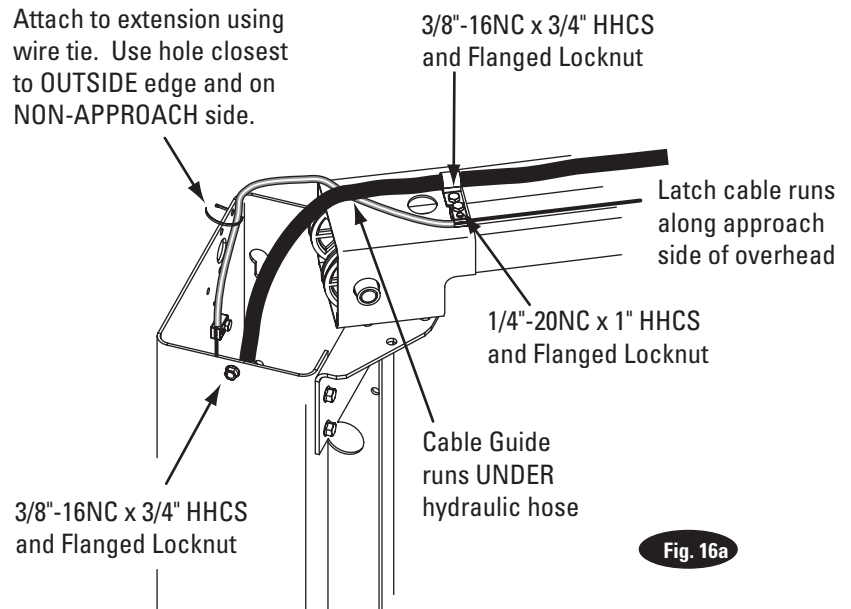
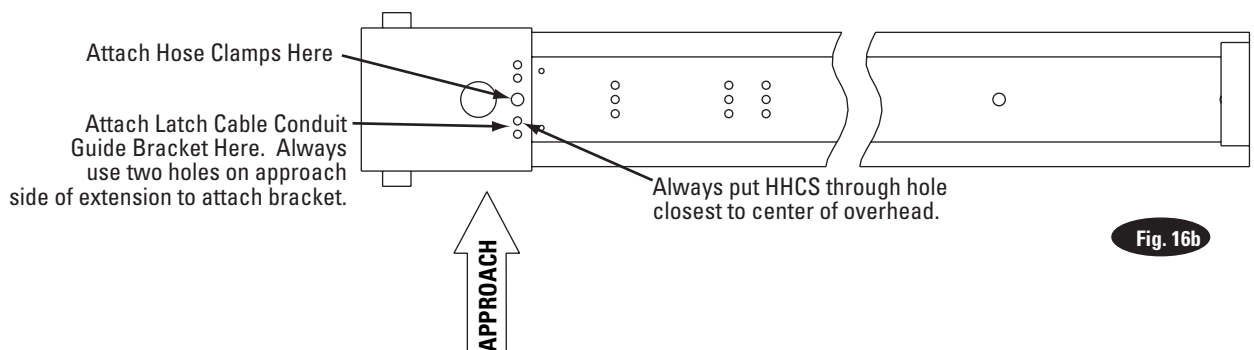
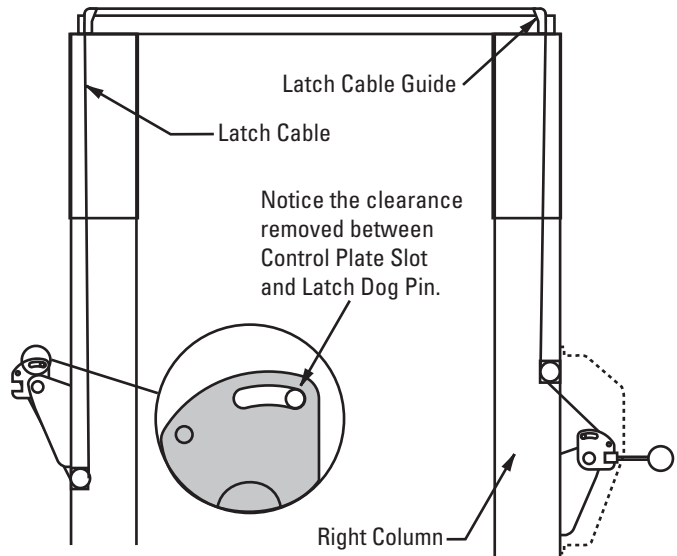
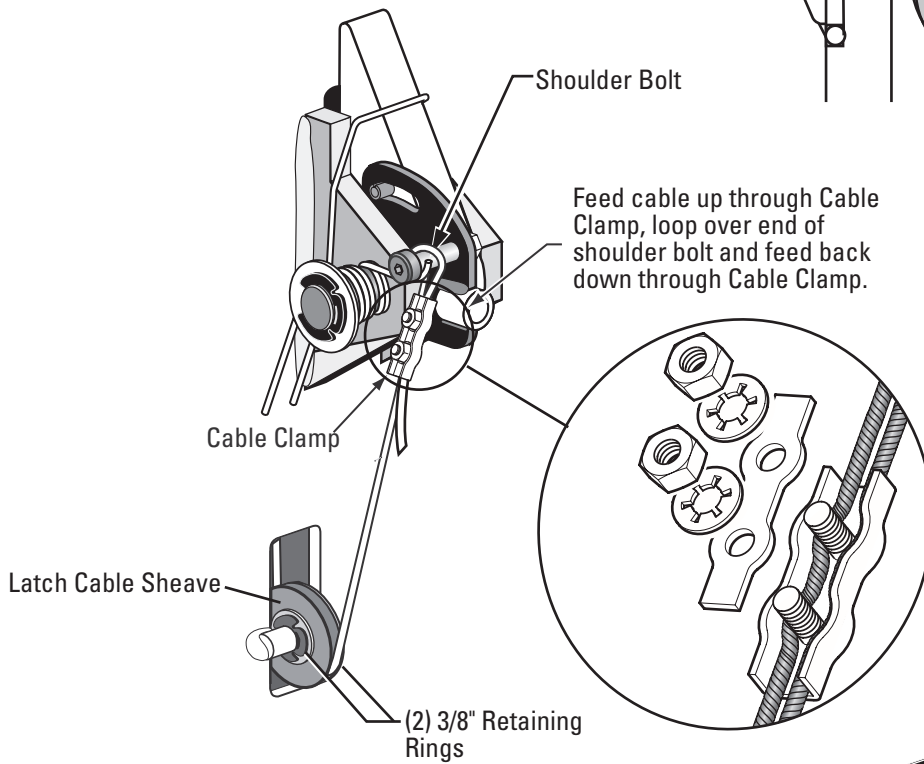

Fig. 16a
Fig. 16b
Fig. 18
Fig. 19
**NOTE:** Route Power Unit hose inside columns using slots provided at column base, Fig. 14. Route Overhead Hose in column channel on outside of column, Fig. 14. Overhead hose goes over top end of overhead assembly, Fig. 12 & Fig. 16a & Fig. 16b.
- D) Attach latch cable conduit guide brackets to overhead as shown, Fig. 16a & Fig. 16b. Always use the holes on the approach side of the lift. HHCS should be in hole nearest the center of the overhead, Fig. 16b.
- E) Route cable up inside column and through the latch cable guide, Fig. 16a & Fig. 18.
Using wire ties provided, tie off cable guide to column extension as shown, Fig. 16a. Guide must be attached in hole closest to the outside edge of the column on the NON-APPROACH side.
- F) Continue routing cable to the left column latch cable guide, Fig. 16a & Fig. 18, routing the cable through the left column latch cable guide, Fig. 16a.
- G) Bring the cable down inside the left column and feed the end of the cable through the lower latch cable sheave slot so that the cable is now back outside the column, Fig. 19.
- H) Install latch cable sheave and retaining rings in lower slot of non-power unit column as shown, Fig. 19.
- I) Route cable under the bottom side of the latch cable sheave, Fig. 19.
- K) Insert cable in cable clamp along one side, loop around shoulder screw and back down, inserting cable along other side of cable clamp, Fig. 19. Place top back on clamp, barely tightening.
- L) Next, pull the control plate down, Fig. 18 & Fig. 19, to eliminate any clearance between the control plate slot and the latch dog pin, Fig. 18.